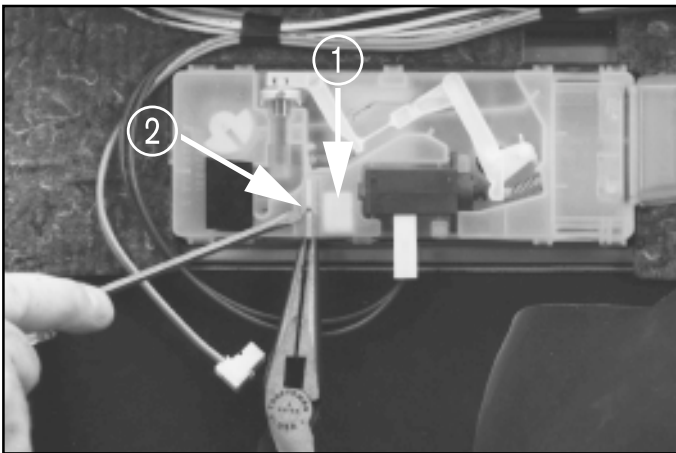

Fig. 8-3
When the Dispenser requires Rinse Agent a Magnetic Float, Fig. 8-3, item 1, will lower and draw the contacts of a Reed Switch, Fig. 8-3, item 2, together. This completes the circuit, and activates the Refill Rinse Agent LED located on the Facia Panel.
To remove the Reed Switch, first disconnect the Wiring Connector. Now, using a small screwdriver push in on the Reed Switch Mounting Tab, Fig. 8-3.